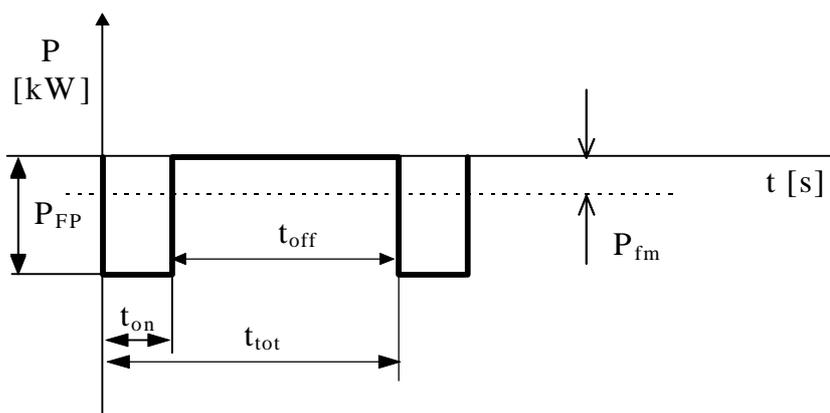

Fig. 3-5: Braking cycle example
c) The braking power can be established based, for example, on the mechanical performance required by the load⁵. It can be constant over time or slowly change as in the drive mechanisms of continuous cycle machines (e.g. paper machines, printing machines) or - as is more frequently the case for operating machines - there can be repetitive cycles with periods of acceleration, constant speed, deceleration. A simple example of braking cycle is provided in Fig. 3-5.
The braking power is in the negative half plane, because in this case the motor acts as generator. In Fig. 3-5, t_{tot} is the overall cycle duration, t_{on} the actual braking duration and t_{off} the time when there is no braking (but there could be, for example, acceleration or constant speed). During t_{on} the braking power value P_{FP} remains constant and is defined as “peak power”; the braking power cycle average value is indicated with P_{fm} . In more complex cycles, the power average value needs to be adequately calculated, considering the different peak values and related duration:
For the sake of simplicity, it is suggested to divide complex cycles into sub-cycles as illustrated in Fig. 3-5.